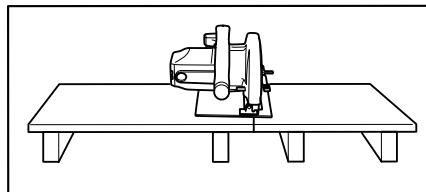

Fig. 1
8. Support Large Panels (Fig. 1 & 2).
Large panels must be supported as shown in Fig. 1 to minimize the risk of blade pinching and kickback.
10. **Guard Against Kickback. (Fig. 1 & 3)**
Kickback occurs when the saw stalls rapidly and is driven back towards the operator. Release switch immediately if blade binds or saw stalls. Keep blades sharp. Support large panels as shown in Fig. 1. Use fence or straight edge guide when ripping.